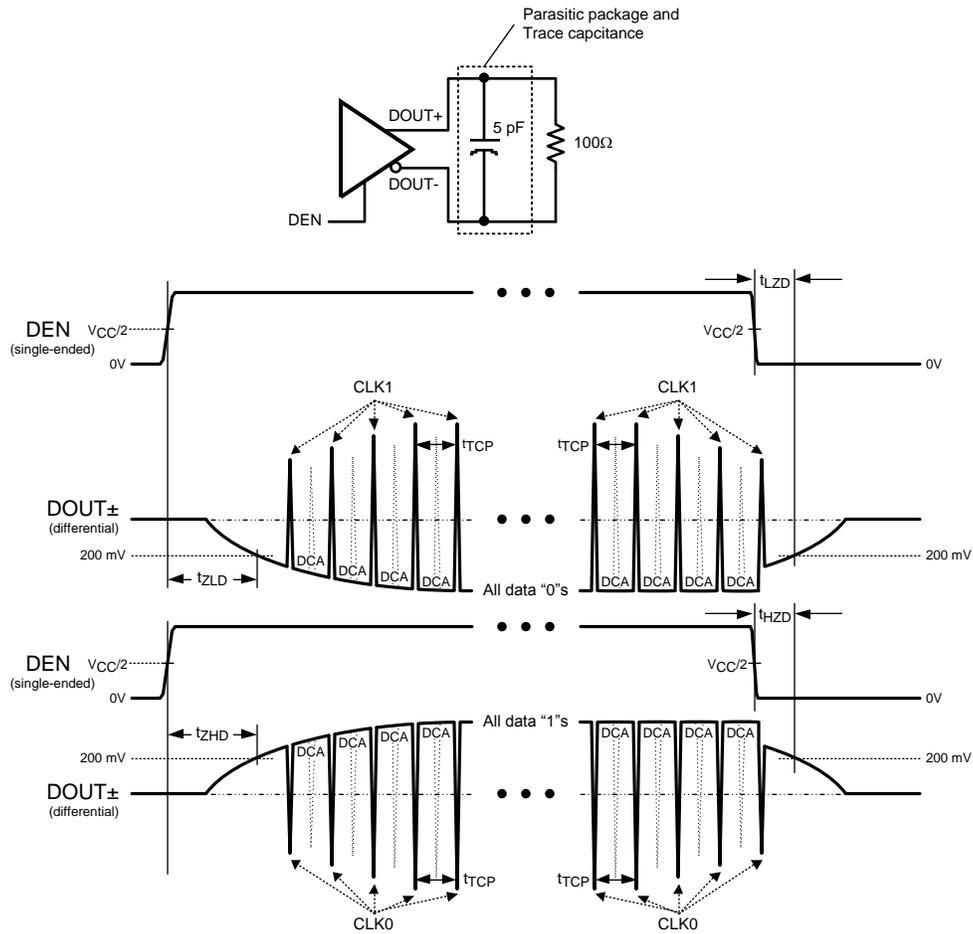

Figure 6. Serializer TRI-STATE Test Circuit and Delay
| $t_{HZD}$  | DOUT $\pm$ HIGH to TRI-STATE Delay      | $R_L = 100\Omega$ ,$C_L = 10\text{ pF}$ to GND(Figure 6) (2) |     |               | 15          | ns        |